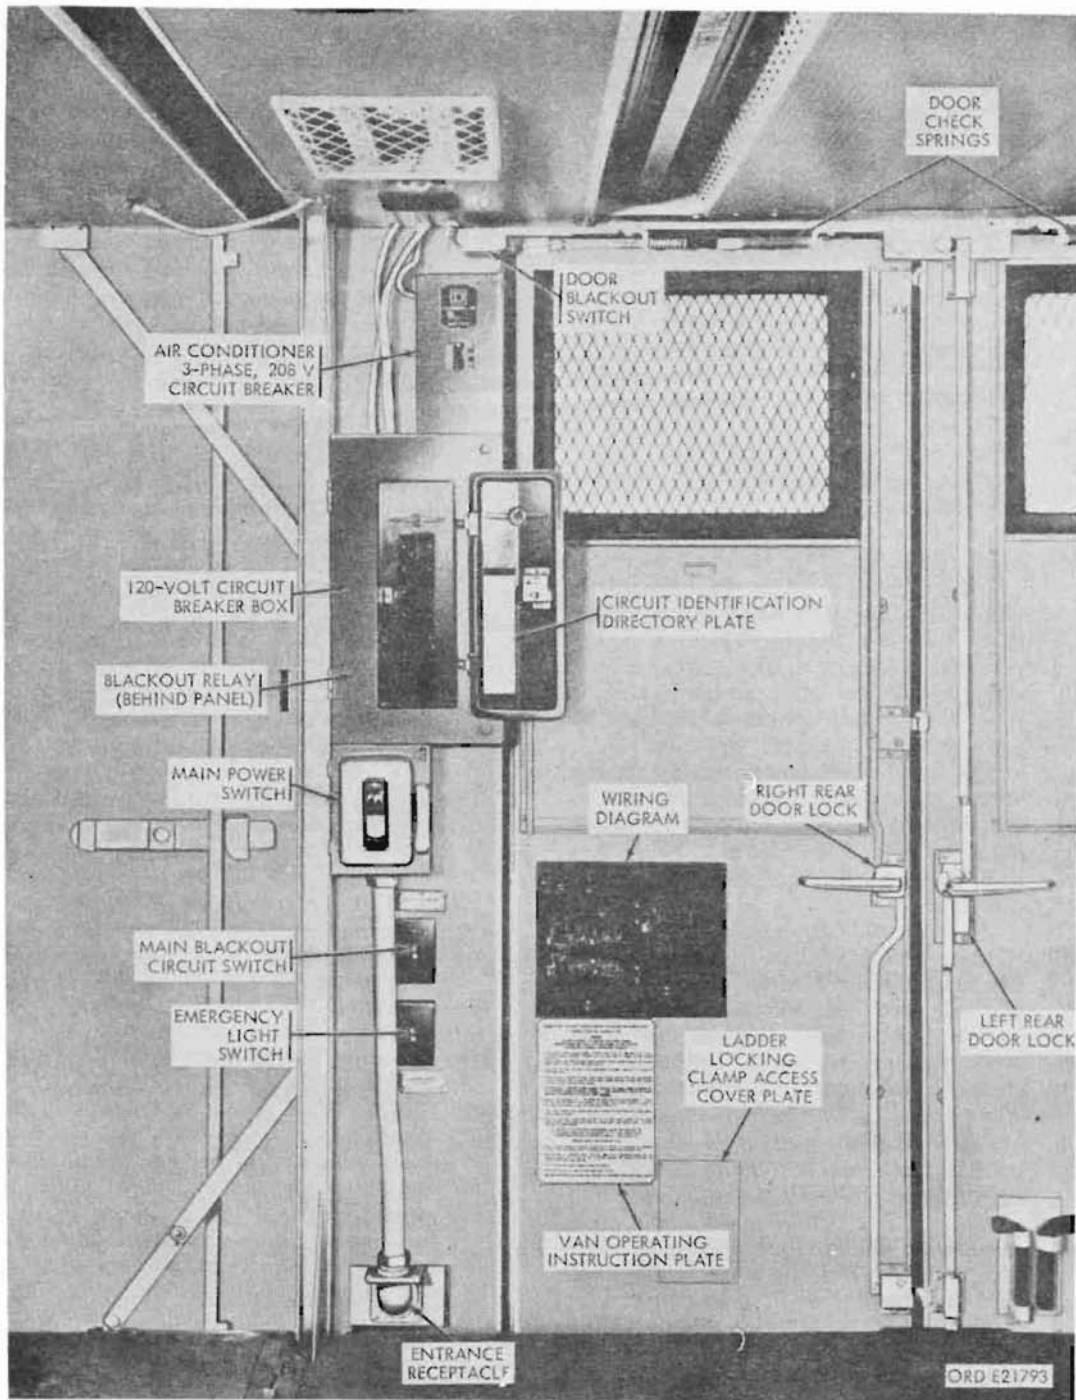

Figure 358. Van electrical controls
- (5) Main power switch. The main power switch (fig. 358) is provided to cut off
- (6) 120-volt circuit breaker box. The 120-volt circuit breaker box (fig. 358) provides a distribution and control station for all equipment requiring 120-volt ac power. It contains 12 push-type circuit breaker switches, electrically connected in three groups of four each. Each group is connected to one leg of the 3-phase power system, thus providing three individual 120-volt branch circuits (fig. 67). Six of the circuit breaker switches are used in the van body electrical system. The remaining six are available for use with tacti-
- (7) Blackout relay. The blackout relay is located inside the circuit breaker box (fig. 358). It is a single-pole, double-throw, magnetic type rated at 60 amperes at 120 volts. The relay automatically interrupts the van lighting and
- (8) Main blackout circuit switch. The main blackout circuit switch (fig. 358) controls the blackout circuit. In the ON position the switch includes the blackout relay in the lighting and receptacle circuits so that these circuits are interrupted by the door-operated switches. In the OFF position the switch bypasses the blackout relay, eliminating the function of the door-operated switches.
- (9) Door-operated blackout switches. Three 6-ampere, 120-volt, pushbutton type door-operated blackout switches (figs. 358 and 361) are located in the van wall near the top of the hinged sides of the two side doors and right rear door. Each switch is actuated by an adjustable plunger operated by a striker plate attached to the top of the door. Thus, when the door is opened the plunger actuates the switch, which in turn trips the blackout relay and interrupts the lighting and receptacle circuits.
- (16) 3-phase air conditioner circuit breaker. The 3-phase air conditioner circuit breaker (fig. 358) is a 3-pole, 20-amp, 250-volt magnetic thermal-type used to protect the air conditioner circuit and to shut off power to the air
a. Removal. Working inside van (fig. 358) remove six screws attaching cover plate to rear door and remove cover plate. Working outside van, remove four nuts and lockwashers attaching locking clamp to rear door, and remove locking clamp.
a. Right Rear and Side Door Locks (Figs. 358 and 363).
(1) Removal.